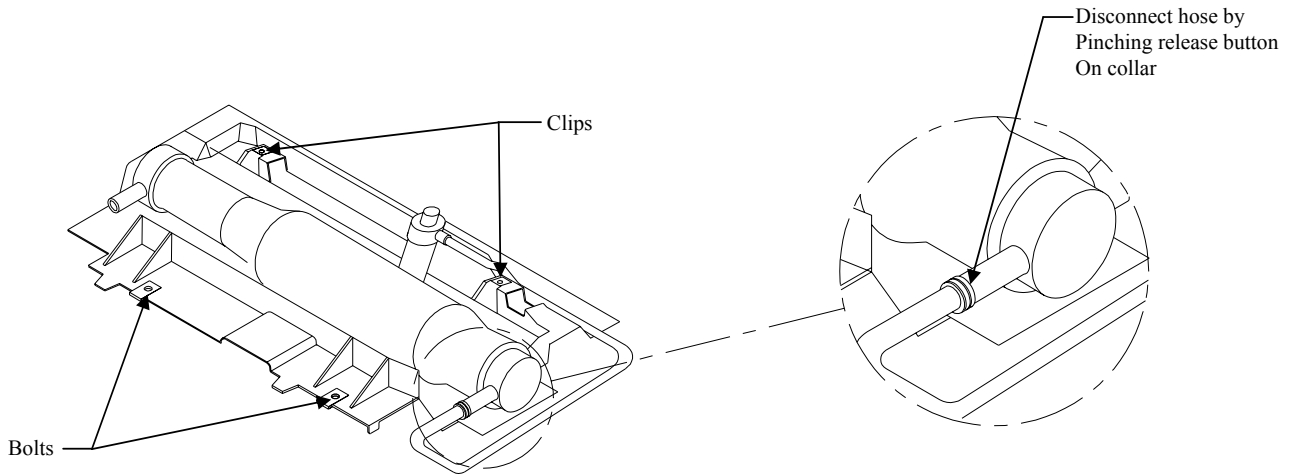

Figure 2
3. Remove the carbon canister: Figure 2.
- C. Remove the (4) fasteners that hold the canister in place. Two bolts located on the spare tire well and two nuts located closer to the center of the canister (clips hold the canister in place and require pulling or gentle prying).